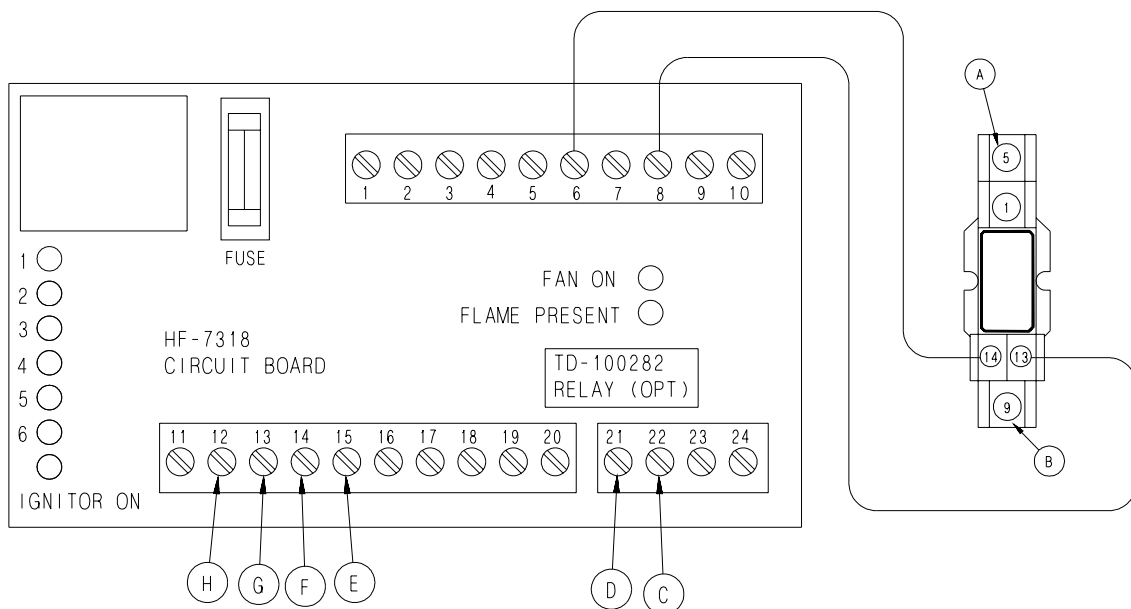

Figure 4: The HF-7318 control board.
Figure 4: Use a #6 or approved size bare copper ground wire. Install a 5/8" diameter 8' long copper-clad ground rod, 2' away from the foundation and 1' below the surface of the ground or in accordance with local requirements.
6. Connect the bare ground wire to the fan control boxes with a grounding lug. See figure 4.